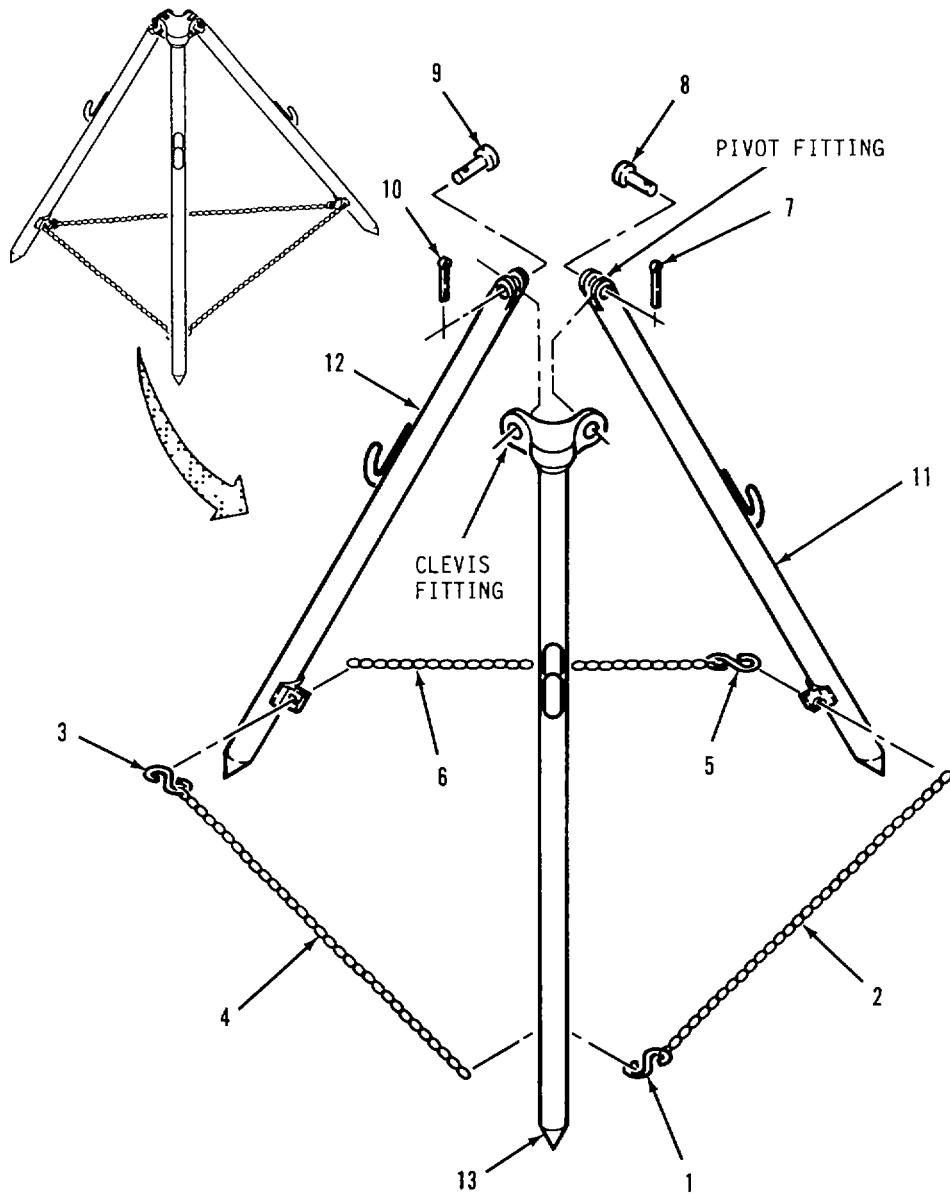

Figure 4-10. Nozzle Stand Repair.
- a. Disassembly. Refer to figure 4-10.
- (1) Unbend and remove S-hooks (1, 3 and 5) and disconnect chains (2, 4 and 6).
(1) Inspect legs (11, 12 and 13) for cracks, broken clevis ends and bent or missing nozzle hangers.
(2) Inspect chains (2, 4 and 6) for broken links.
e. Assembly. Refer to figure 4-10.
(1) Position clevis fitting on leg (13) over pivot fitting on leg (12).
(2) Install straight pin (9) through pivot fitting and clevis. Install cotter pin (10) in straight pin.
(3) Align clevis fitting on leg (13) with pivot fitting on leg (11).
(4) Install straight pin (8). Install cotter pin (7) in straight pin.
(5) Connect chains (2, 4, and 6) to legs (11, 12, and 13) with S-hooks (1, 3 and 5).
(6) Position nozzle stand in water system.